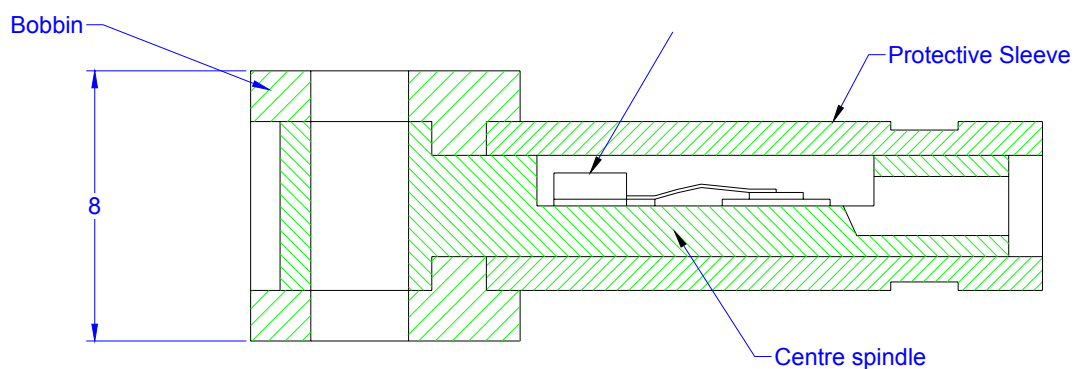

Figure 1 - Section through CX-1030 mount
- The mount is made from three pieces of Gold plated Aluminium Alloy as shown in Figure 1.